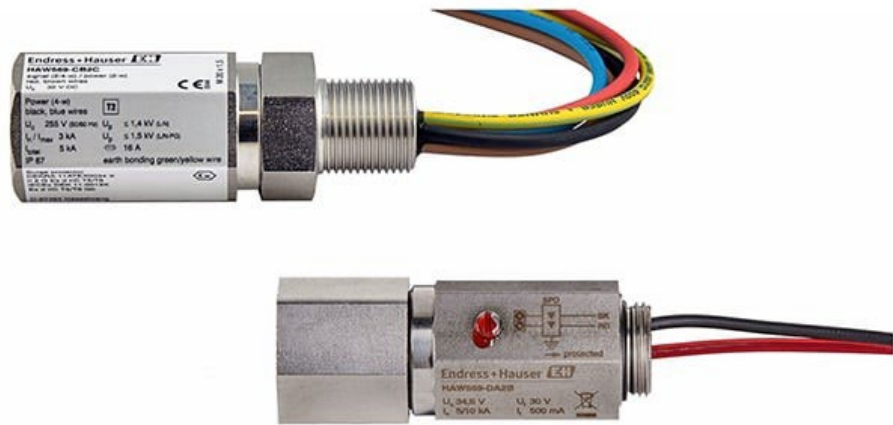

Figure 5: HAW569-CB2C for power and signal cables (top) and HAW569-DA2B for signal cables (bottom). Image source: Endress+Hauser
- HAW569 surge arresters for process field instrumentation like the HAW569-CB2C for power supply and signal cables and the HAW569-DA2B, for signal cables (Figure 5)